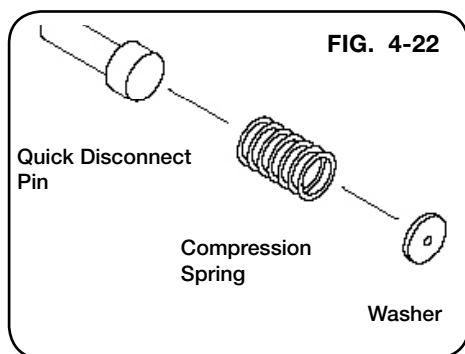

FIG. 4-22
7. Remove U-joint assembly (95012) on the gearbox by using a drift punch and hammer on the quick disconnect pin. (92362 - quick disconnect pin kit) (FIGS. 4-22 and 4-23)